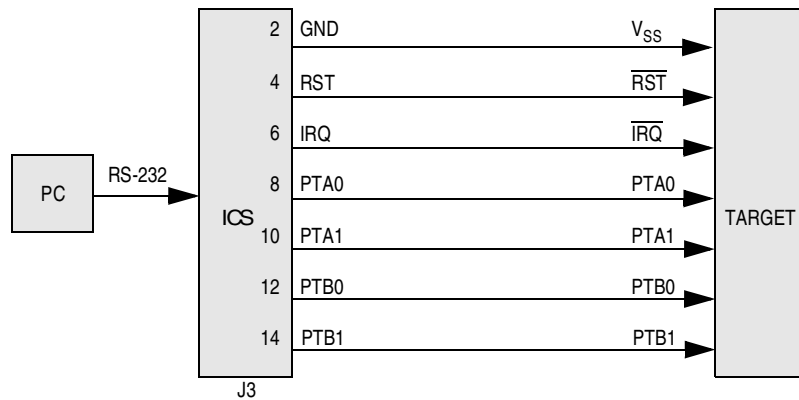

Figure 2. MC68HC908KX2/8 MON08 Connections
2. Connections (see Figure 2):